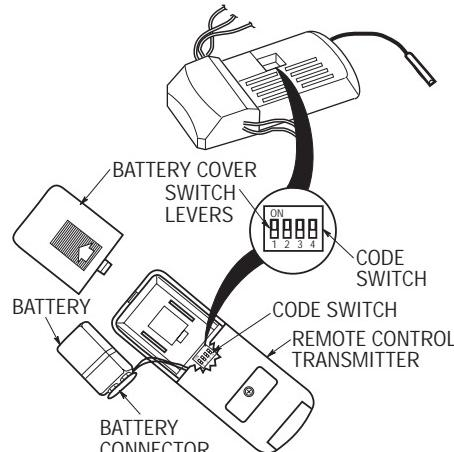

Figure 1
1. Remove the battery cover by pressing firmly below the arrow and sliding the cover off the control (Figure 1).
1. On the remote control transmitter, locate the code switch just above the battery compartment (Figure 1).
- 3. In the receiver (Figure 1), slide the four switch levers to the same positions as set in the transmitter. Make sure the levers on both switches are in the same positions, otherwise the fan will not operate.